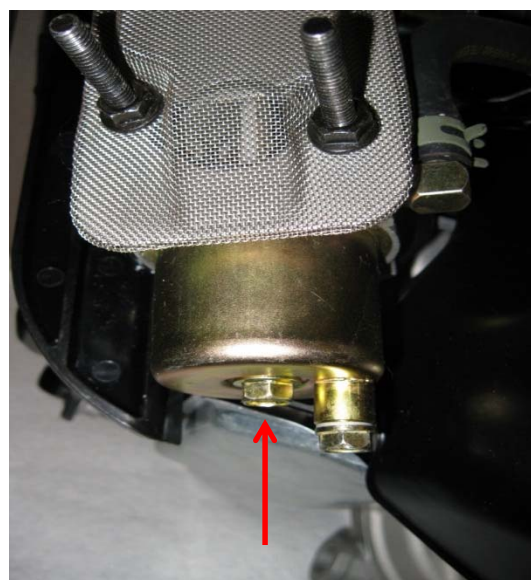

Figure 2
- 5) Using a ¼ inch drive 10 mm socket, loosen the bowl nut (arrow, Figure 2) approximately 1 turn.